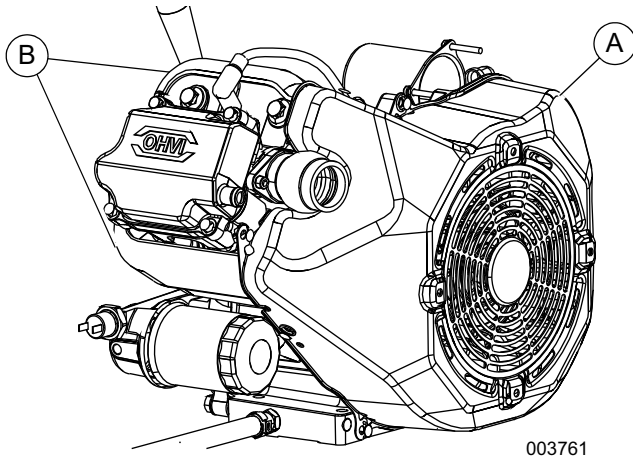

Figure 6-2. Blower Housing and Wrappers
1. See Figure 6-2. Remove blower housing (A) and upper and lower wrappers (B).